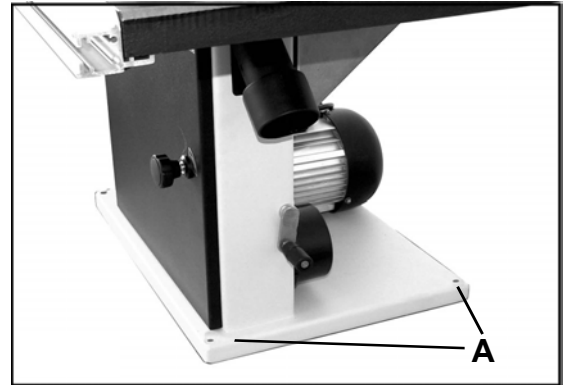

Fig. 01
The bandsaw has four holes (A) in the base (See Fig.01) to allow it to be bolted to the base cabinet. Lift the saw onto the base cabinet using the frame. Do not lift bandsaw using the table. Install the four bolts, eight washers and four nuts as shown in the Base Cabinet Assembly instructions on page 5.